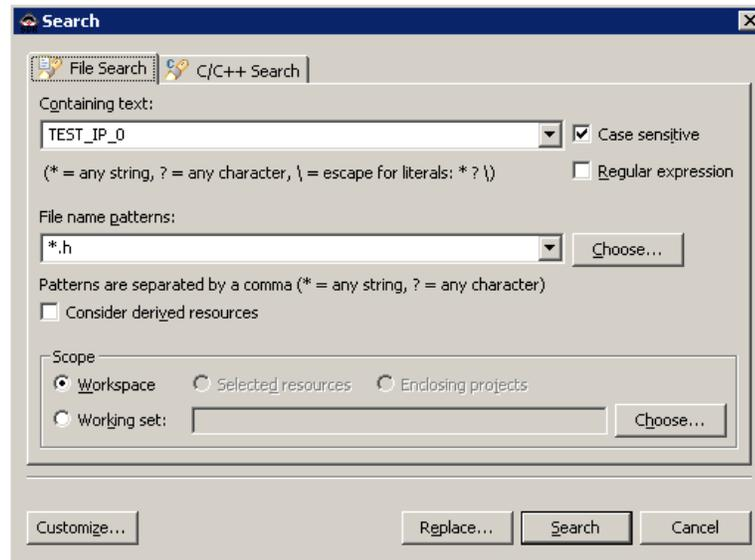

Figure 6-5: File Search Dialog
- b. Double-click `xparameters.h` to open it in the editing window. Search for `TEST_IP_0_BASEADDR`, using the File Search dialog, shown in Figure 6-5.